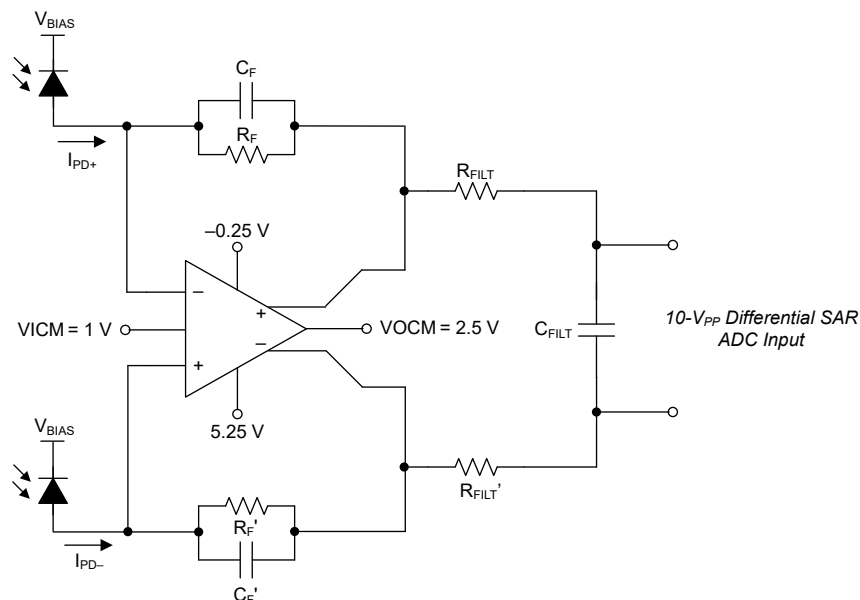
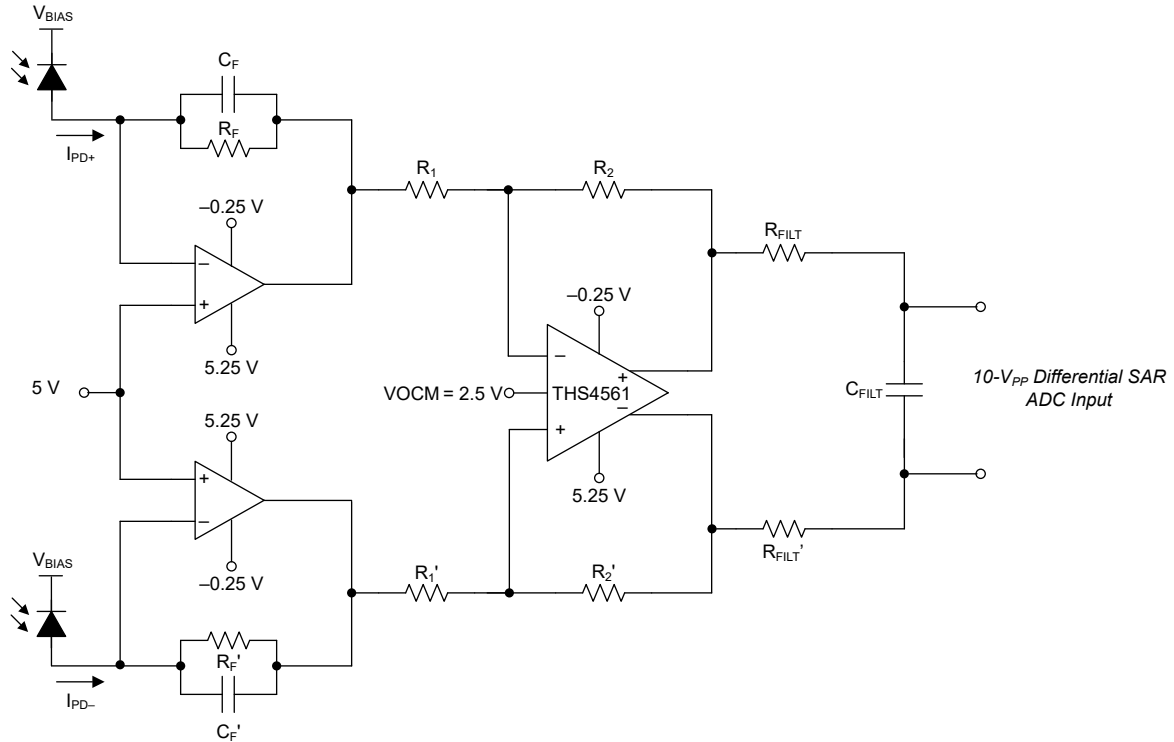

Figure 8-2. THS4567 with Integrated Differential TIA + ADC Driver
Figure 8-3. Discrete Differential Op Amp TIA + 2nd Stage ADC Driver
The primary use case for the THS4567 input common-mode loop is in differential transimpedance applications that have a large common-mode offset due to ambient light. In this section we compare the performance of the THS4567 device with the input common-mode loop enabled (TIA mode) as shown in Figure 8-2 versus a differential TIA implementation built using two discrete op amp channels (OPA mode) as shown in Figure 8-3.
- With the photodiodes (PDs) configured with a cathode bias as shown in Figure 8-2 both PDs will source current when light is incident on them. To maximize the reverse bias across the PD, V_{BIAS} is typically set to the amplifiers positive supply voltage or the highest available positive supply voltage.
The OPA mode configuration is shown in Figure 8-3. This configuration results in a reverse bias of (5.25 V - 5 V = 0.25 V) across the PD thereby greatly increasing the PD capacitance compared to the TIA mode.
Figure 8-6 shows the output of the first stage transimpedance amplifier setup shown in Figure 8-3. The output common-mode is centered on 0.83 V. The offset in the common-mode is caused by the offset due to the ambient light. More importantly the differential output swing is only 3.33 V. To maximize the ADC dynamic range the subsequent THS4561 differential amplifier stage is configured in a signal gain of 3 V/V. The THS4561 device will also perform a level shift to center the output common-mode to 2.5 V.